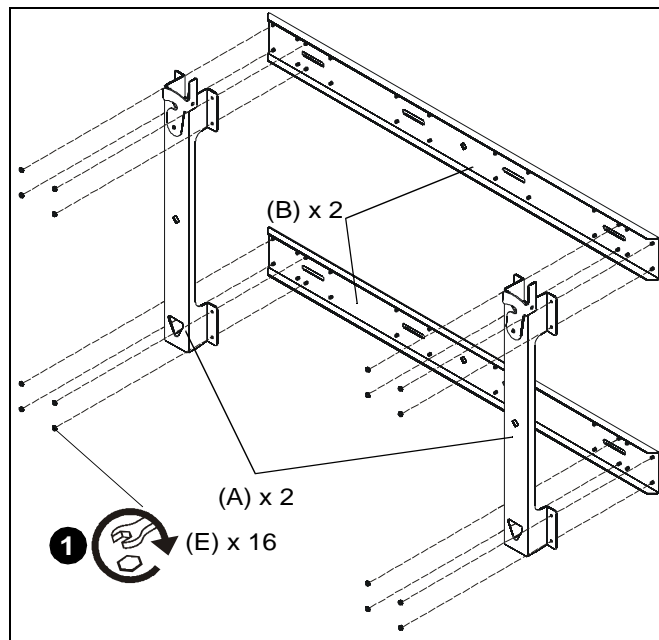

Figure 1
1. Attach two vertical brackets (A) to horizontal brackets (B) using sixteen 5/16-18" nylon lock nuts (E). (See Figure 1)